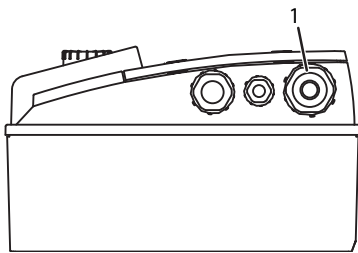

Fig. 18: M25 threaded cable connection
- The electrical connection must be established via a fixed power cable (cross-section to be maintained: $4 \times 1.5 \text{ mm}^2$, min.; $4 \times 4 \text{ mm}^2$, max.), which has a plug attachment or an all-pole switch with a contact opening of at least 3 mm. The power cable is to be fed through the M25 threaded cable connection (Fig. 18, Item 1).